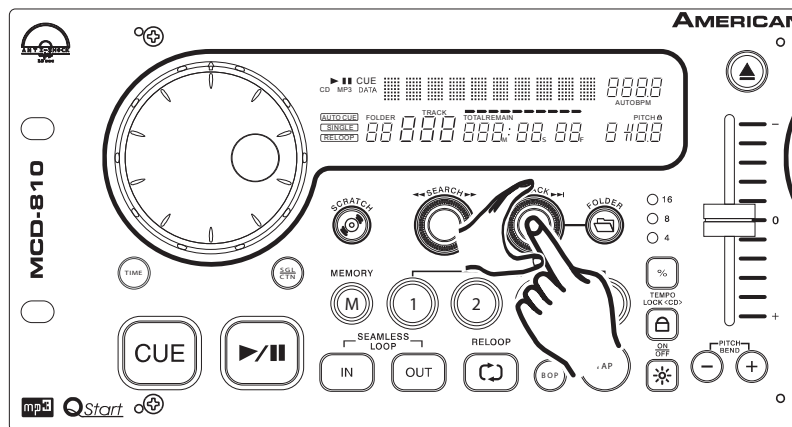

Figure 40
Using the Pitch Slider Percentage Selector (3): You may choose a pitch operating range at any time. To change the operating range be sure the pitch function is turned on, see figure 40. The pitch percentage can be changed between $\pm 4\%$, $\pm 8\%$, $\pm 16\%$, and $\pm 100\%$. 4% will allow the least amount of pitch manipulation and 100% will allow the most amount of pitch manipulation. To adjust the different values, tap on the % **BUTTON** (3) until your desired value is reached. The L.E.D. of the % **BUTTON** (3); glowing red for 4% , flashing red for 8% , glowing blue for 16% or flashing blue for 100% .